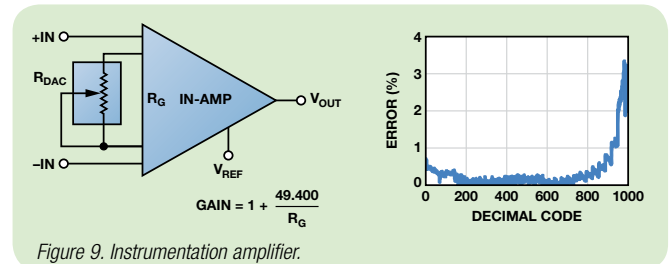

Figure 9. Instrumentation amplifier.
- ADI offers digiPOTs, for example, the AD5272 and AD5292, with industry-leading maximum $\pm 1\%$ variable resistor performance. These devices enable designers to digitally program accurate resistor values, simplifying the process of determining the system error budget (see Figure 9).